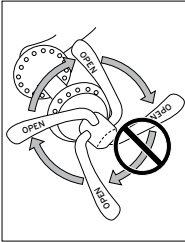

FIGURE 48:
- Do not turn the lever like a wing-nut to tighten it (Figure 48); this will not make sufficient force to hold the wheel.